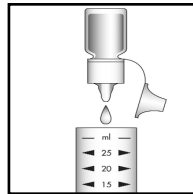

Figure 1
1. Add 5 drops of A-7400 Activator Solution (fig 1) to the sample cup.